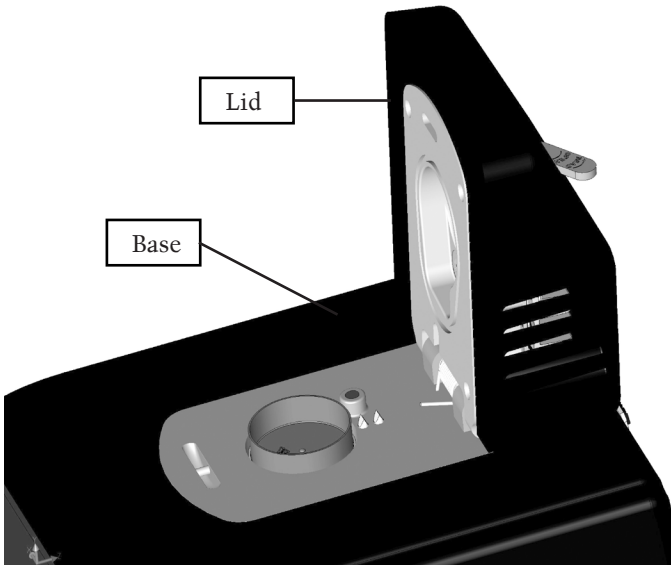

Figure 5: Sample chamber
- To verify, remove weigh pan and then place sample cup containing one of AquaLab's verification standards in sample chamber. Close lid and carefully avoid spillage; See Figure 5.